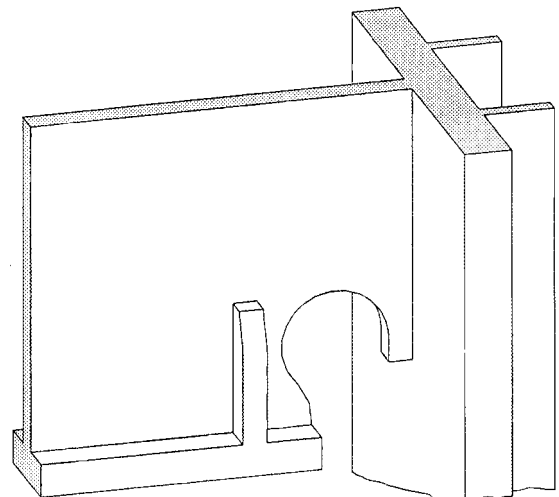

Fig. 7 Ear Solution Repair
- Removal and renewal of cross beam in order to have sufficient access for complete elimination of the crack(s). Welding in two additional stiffening ribs to the guide plates and the cross beam. The ribs are located between the two middle plates (Ear Solution, Fig. 7).